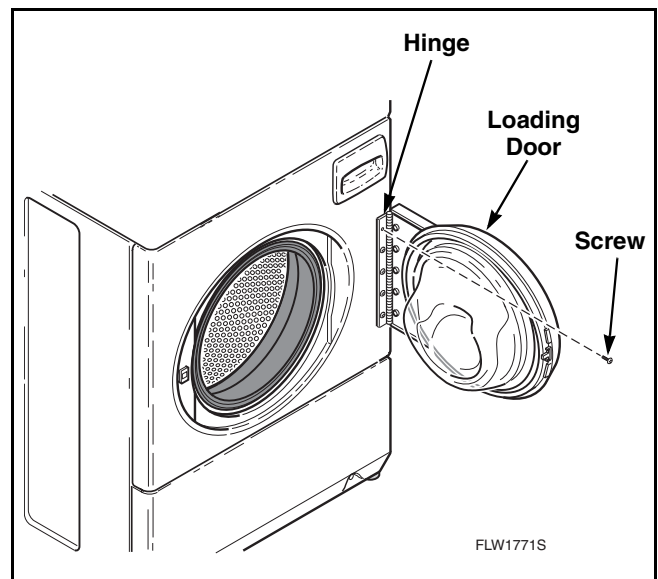

Figure 5
- The loading door can be adjusted up or down somewhat by loosening screws holding door hinge to front panel, then raise or lower door before retightening screws. Refer to *Figure 5*.